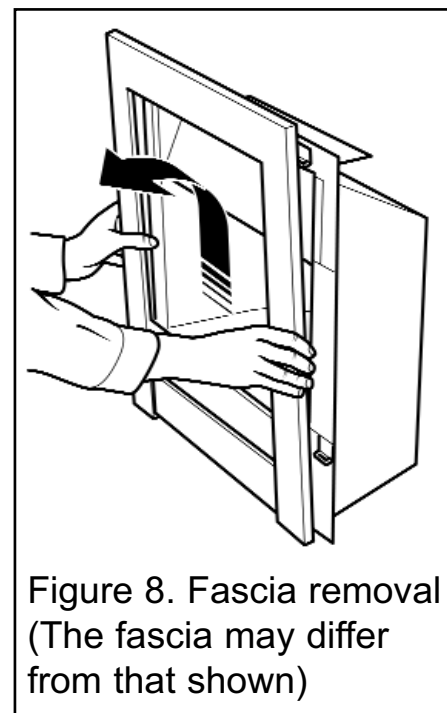

Figure 8. Fascia removal
- On 'Aspect Glass', 'Fascination' and 'Tranquility' models the fascia will have to be removed to gain access to the ceramic fuel effect. The fascia is held in place by four retaining plates at the back of the fascia. These slot into four retaining brackets on the hotbox. To remove the fascia, hold the sides of the fascia and lift upward and forward. The fascia should lift clear of the hotbox (See figure 8). The fascia can be replaced in the reverse order.